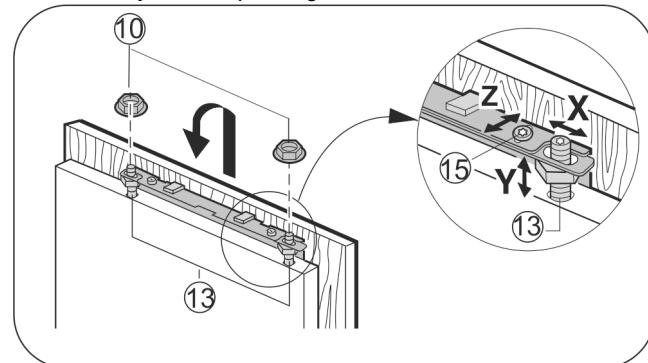

Fig. 23
- ▶ Attach the unit door on the adjusting bolts Fig. 23 (13) and loosely screw locknuts Fig. 23 (10) onto the adjusting bolts.
- ▶ To align the unit door in the **Y** direction (height) and in lateral inclination: Adjust the adjusting bolts Fig. 23 (13) with a screwdriver.
- ▶ Tighten the locknuts Fig. 23 (10).